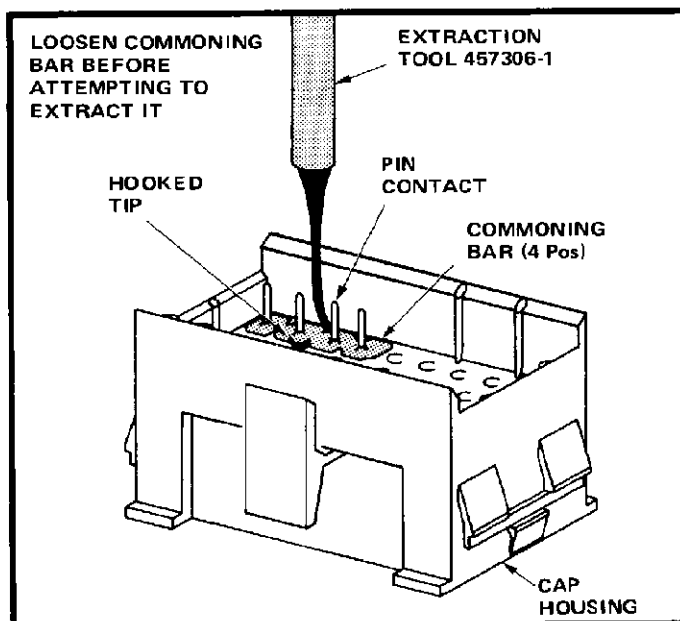

Fig. 4
1. Grasp cap housing firmly. Position hooked tip of tool under commoning bar and between two contacts (see Figure 4).